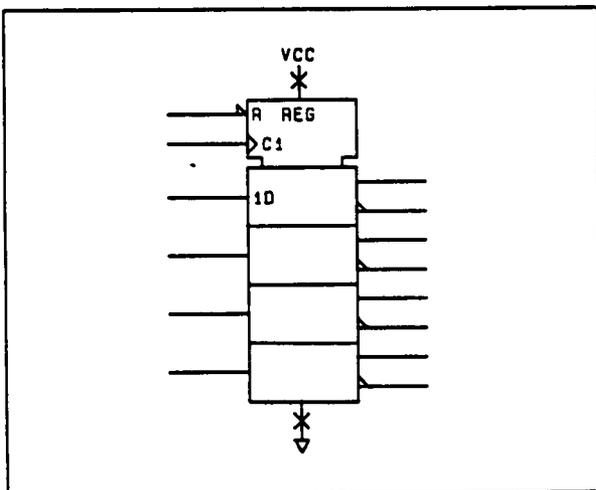

Figure 8-13. Quad D-Type Latch
Quad D-Type Latch. The control block shown in Figure 8-13 is used to illustrate a Quad D-type Latch. It has a common active-low reset (R), and a common edge-triggered control input (C1). There is only one dependency relationship; the controlling input is numbered and the controlled functions have the control dependency notation (1D) next to them.